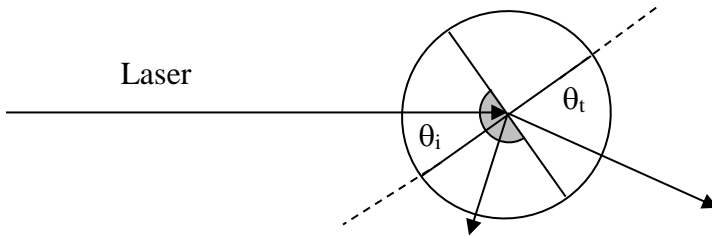

Fig.2. set-up for beam going **out of** the denser medium
1. Place the half-cylinder as shown in Fig 2 on the rotation table. *Why does this orientation accurately represent the ray refracting from a higher index, to a lower index?*